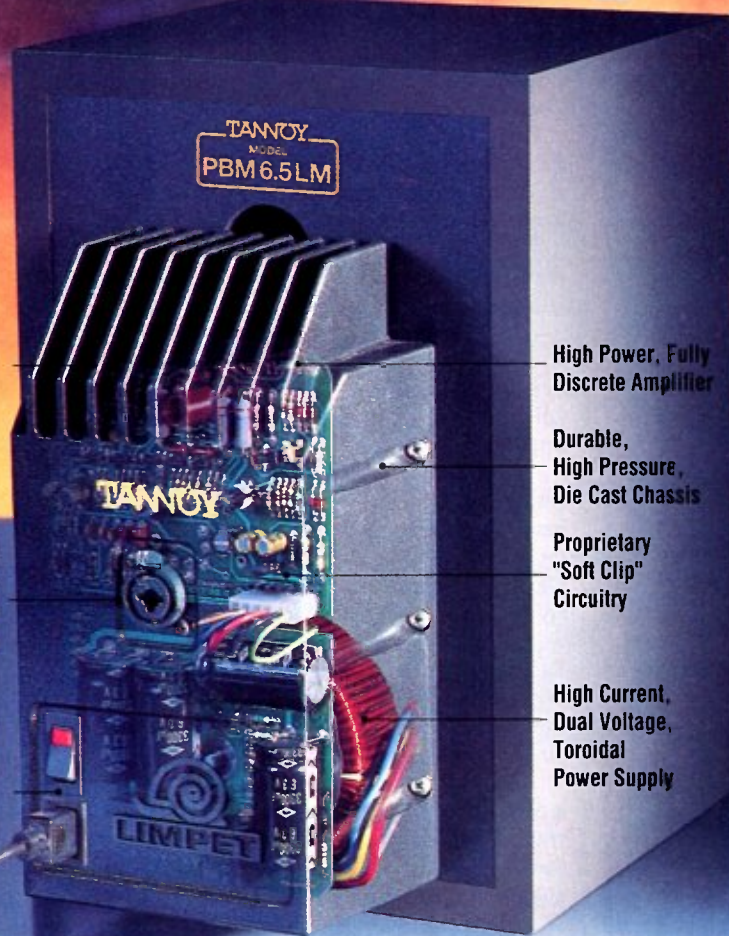

FIGURE 4: Lining the trash can with fibreglass.
4. Buy a paper "surgical mask" at the hardware store so you won't inhale any fiberglass. You might also want to wear gloves to prevent handling it directly. If it has a paper backing you can leave that on. Place the paper side against the can. One roll of R-13 insulation will make two 32-gallon trap cans (see fig. 4).